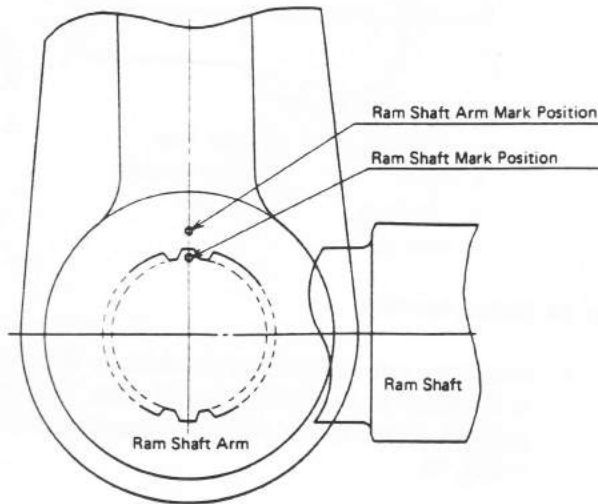

Fig. 16 Position of Ram Shaft and Ram Arm
7. Install the ram shaft arm (25) (right) and (11) (left) in the ram shaft (9) which is locked. For position of the ram shaft spline, refer to Fig. 16. Insert the screw (14) into the left side washer (12) and spring washer (13), and tighten it by using the special tool (1800QL, TORQUE WRENCH). Tightening torque should be at 40.3 lb-ft (6 kg-m).